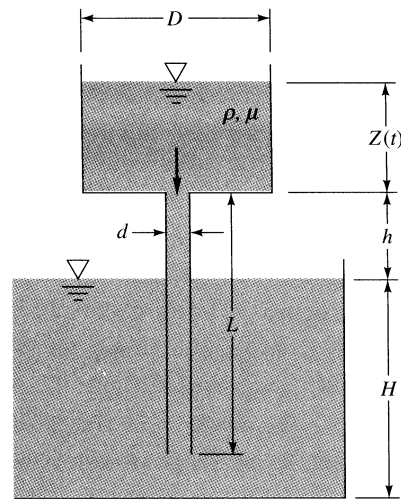

Fig. P6.27
6.27 Let us attack Prob. 6.25 in symbolic fashion, using Fig. P6.27. All parameters are constant except the upper tank depth $Z(t)$. Find an expression for the flow rate $Q(t)$ as a function of $Z(t)$. Set up a differential equation, and solve for the time t_0 to drain the upper tank completely. Assume quasi-steady laminar flow.